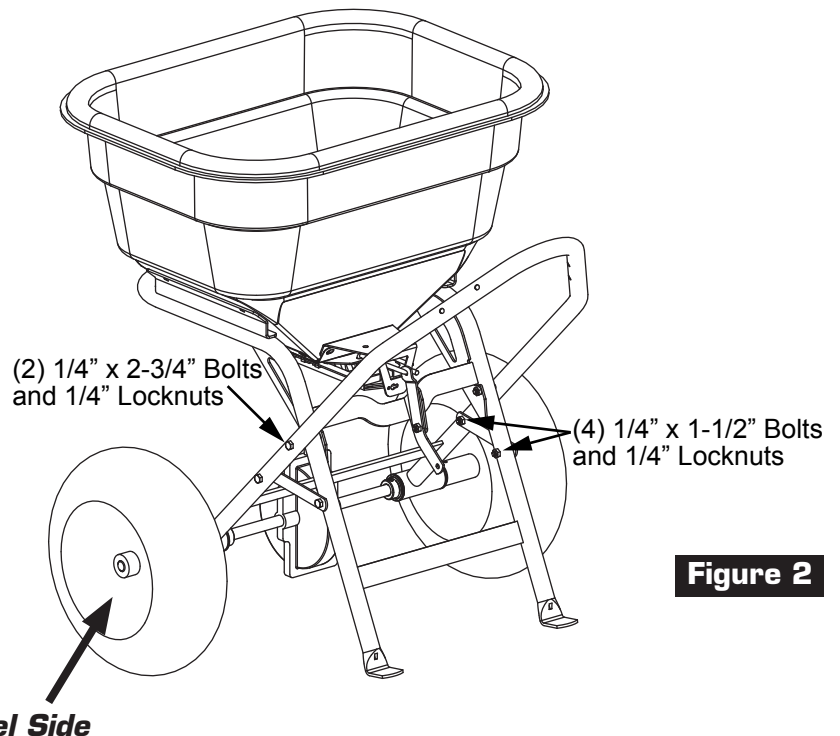

Figure 2
3. Install Hopper Frame Assembly to axle frame assembly as shown, Figure 2. **NOTE Orientation Of Drive Wheel. It must be installed on left hand side of spreader.** If axle/frame assembly is installed backwards the fan will spin backwards and spreader will not work properly. Install using (2) $1/4$ " x $2-3/4$ " Bolts and Locknuts. If there is any space between the two frames, $1/4$ " Flat Washers are provided in the parts bag. Shim as required.
4. Install cross braces to frame as shown, Figure 2. Install using (4) $1/4$ " x $1-1/2$ " Bolts and Locknuts.